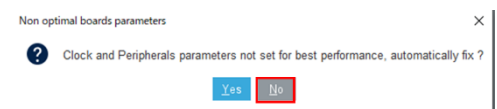

Fig. 6.13 Alarm of automatically clock
- If a window of Figure 6.13 appears, click No. In case of Yes, it will affect communication with MeldIR.